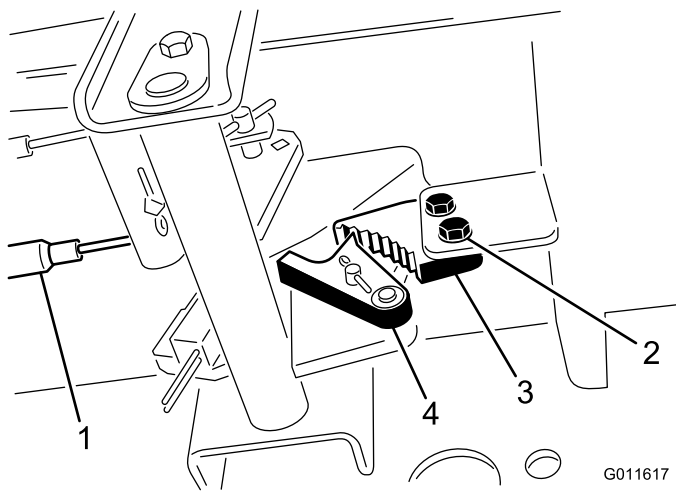

Figure 75
1. Loosen the 2 screws securing the parking brake pawl to the frame (Figure 75).
2. Press the parking brake pedal forward until the brake detent completely engages on the brake pawl (Figure 75).